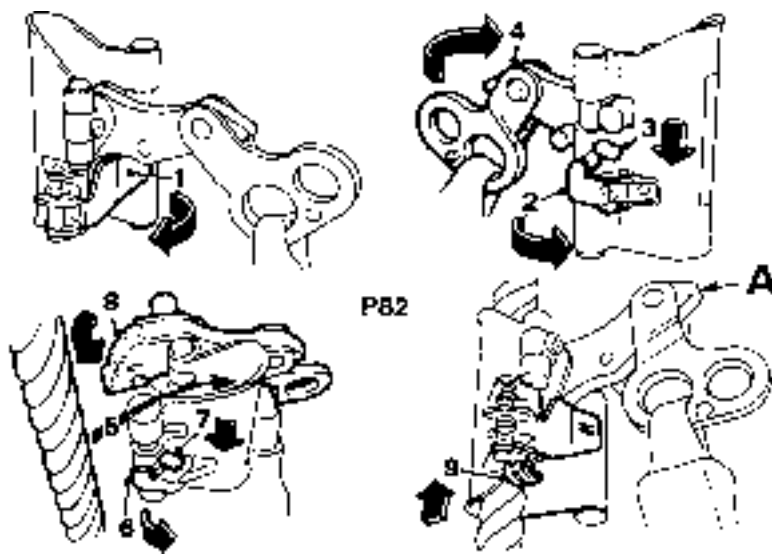

Fig 4
- 7- Attach the rope grab to the main rope following the numbered sequence in Fig 4. After attaching the rope grab check grab operation by pulling firmly down on lever 'A' in Fig 4. The rope grab must lock immediately.